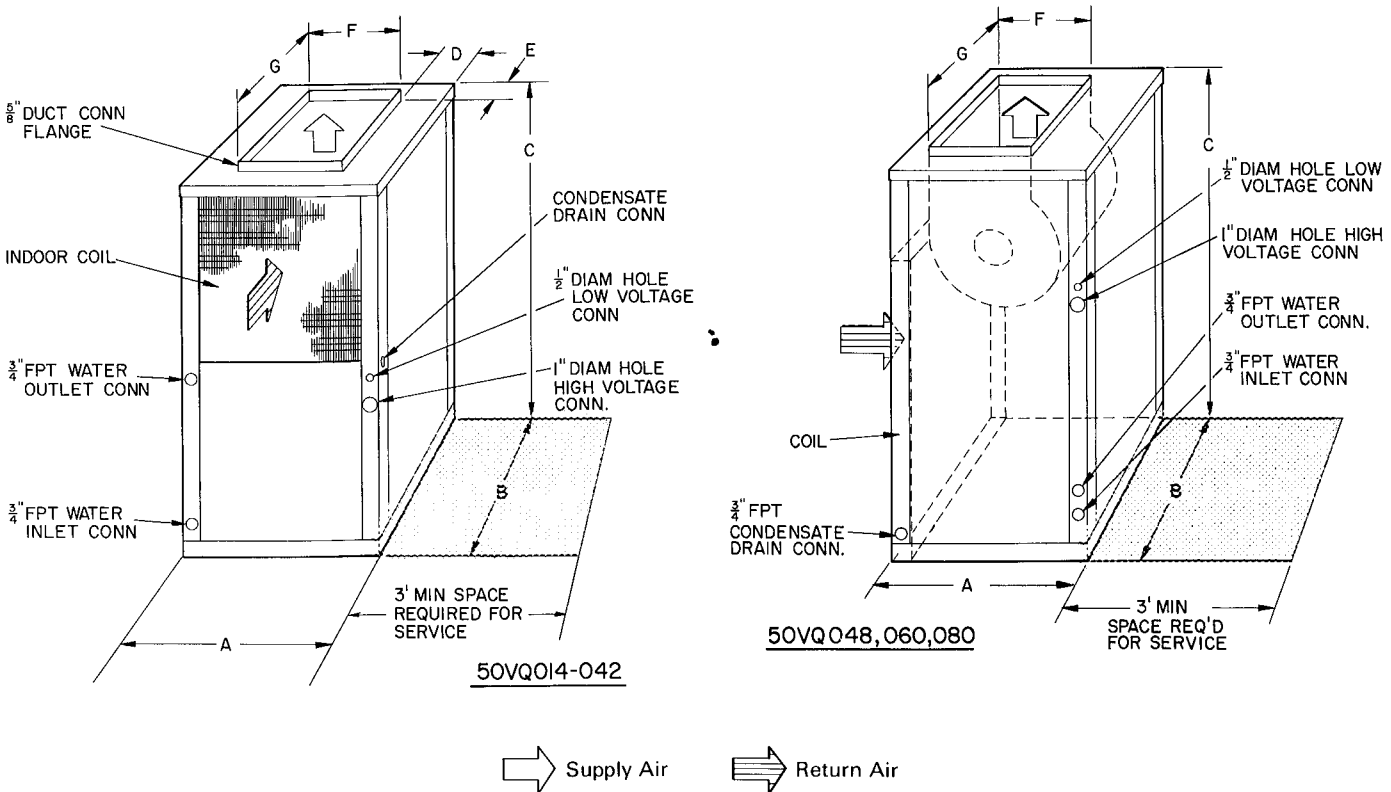
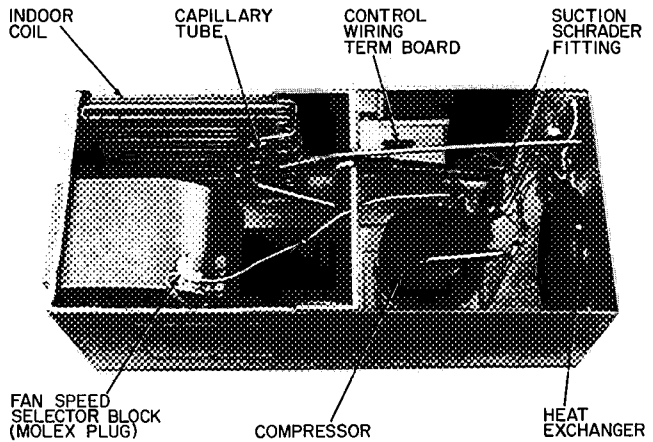
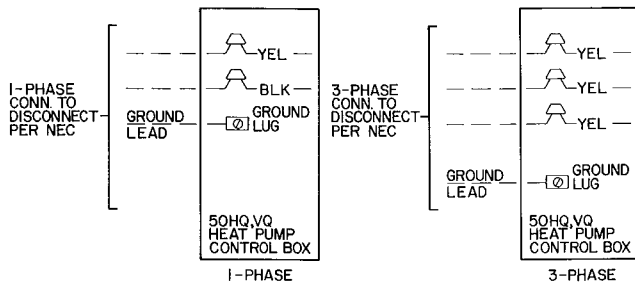

Fig. 1 — Dimensions and Connections — 50VQ
Fig. 7 — Typical Component Arrangement (50HQ014-042 Shown)
Fig. 6 — Line Power Connections
- c. Provide sufficient space for water piping, condensate drain, wiring and servicing unit. See Fig. 1. When front (external) water piping connections are used, locate unit so piping does not block front access panels. (Units installed in confined areas may have to be removed for major servicing such as compressor or fan motor replacement.)
Step 2 — Connect Supply Ductwork — Supply air duct flange is shipped inside unit. Remove flange from shipping location and install on unit supply air opening. Connect supply air ductwork to unit supply air duct connection flange. Refer to Fig. 1 and 2 and Table 1 and 2 for connection size and location. If necessary, refer to Carrier System Design Manual, Part 2, for system air duct design.
Table 1 — Installation Data — 50VQ (See Fig. 1.)
BRING POWER LEADS INTO UNIT — Extend leads from disconnect per NEC thru hole provided (Fig. 1 and 2) into line wiring splice box, Fig. 6.
CONNECT GROUND LEAD TO GROUND LUG IN SPLICE BOX for safety. Connect power wiring. See Fig. 6. Splice line power leads to yellow and black pigtails on single-phase units or yellow pigtails on 3-phase units. Use wire nuts. Tape each connection.
2. Locate Molex fan speed selector block on fan housing, Fig. 7. Selector block receptacle 1 is high fan speed, receptacle 2 is medium fan speed and receptacle 3 is low fan speed. Yellow and black fan motor power leads from control box are connected to selector block receptacle C and 1. Yellow lead is common, black lead is speed-change lead.
— Power leads are brought thru 1/2-in. hole provided in unit, Fig. 1 and 2. Extend leads to control wiring terminal board located on top of control box, Fig. 7. Connect leads to terminal board as shown in Fig. 6.